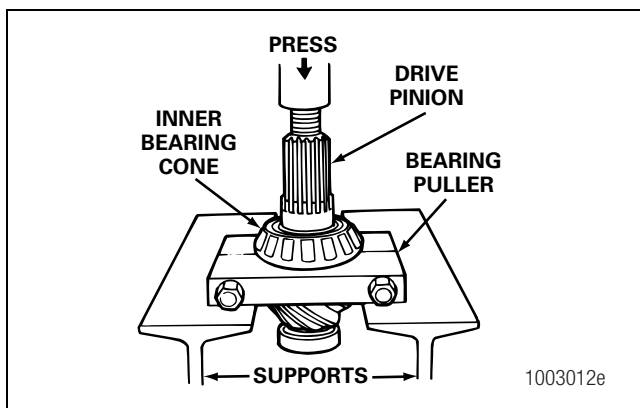

Figure 3.29
6. If the pinion bearings need to be replaced, remove the inner bearing cone from the drive pinion with a press or bearing puller. The puller must fit under the inner race of the cone to remove the cone correctly without damage. Figure 3.29.